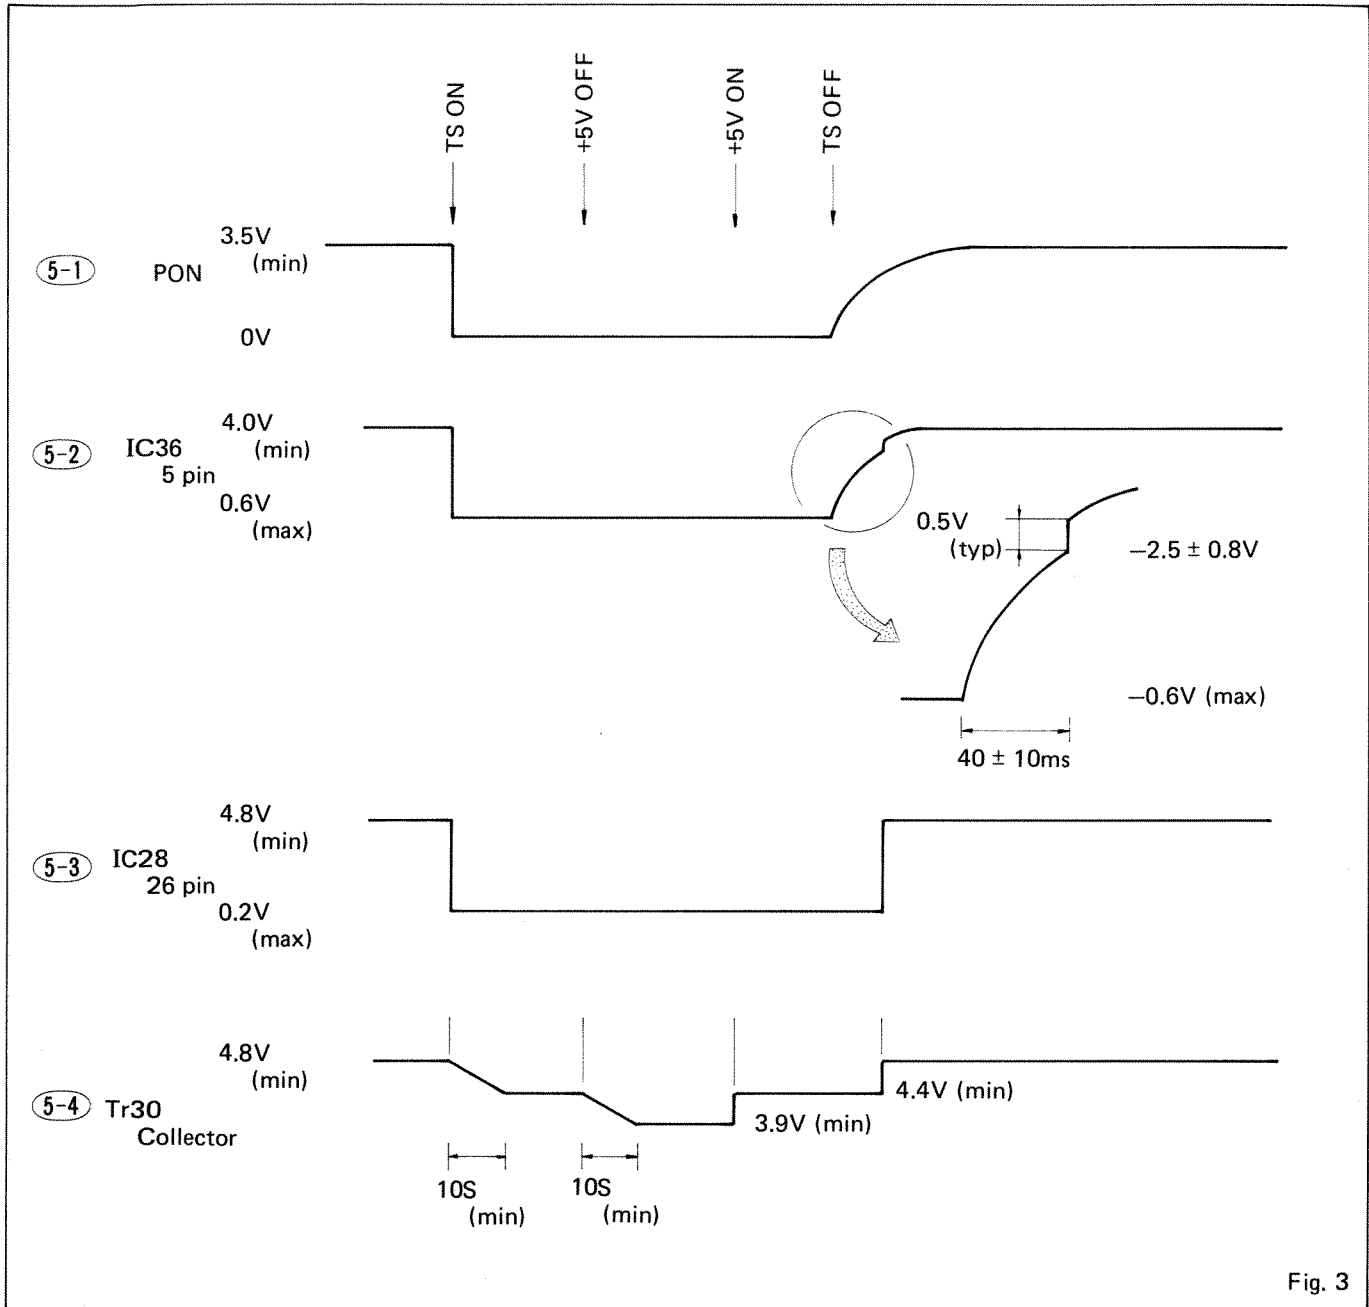

Fig. 3
Waveforms as provided in Figure 3.
3. Waveforms should vary as shown in Figure 3 when PW is shifted up to 90% under a condition as described in item A-2.